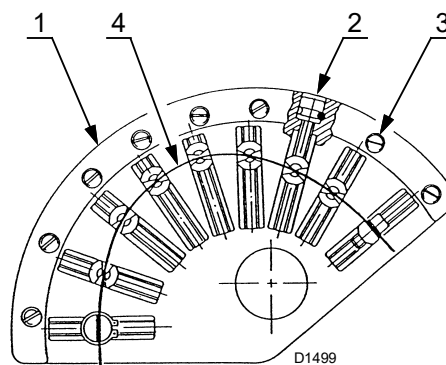

Fig. 31
act on the adjustment screws 2)(Fig. 31) after having loosened the screws 3).
Use the adjusters 2)(Fig. 31) after loosening the screws 3).
Key (Fig. 31)
- Calibrate the air delivery by adjusting the variable profile cam with the screws 2)(Fig. 31).
- With the optimal adjustment achieved, remember to lock the adjustment screws of the cam profiles by means of screws 3)(Fig. 31).